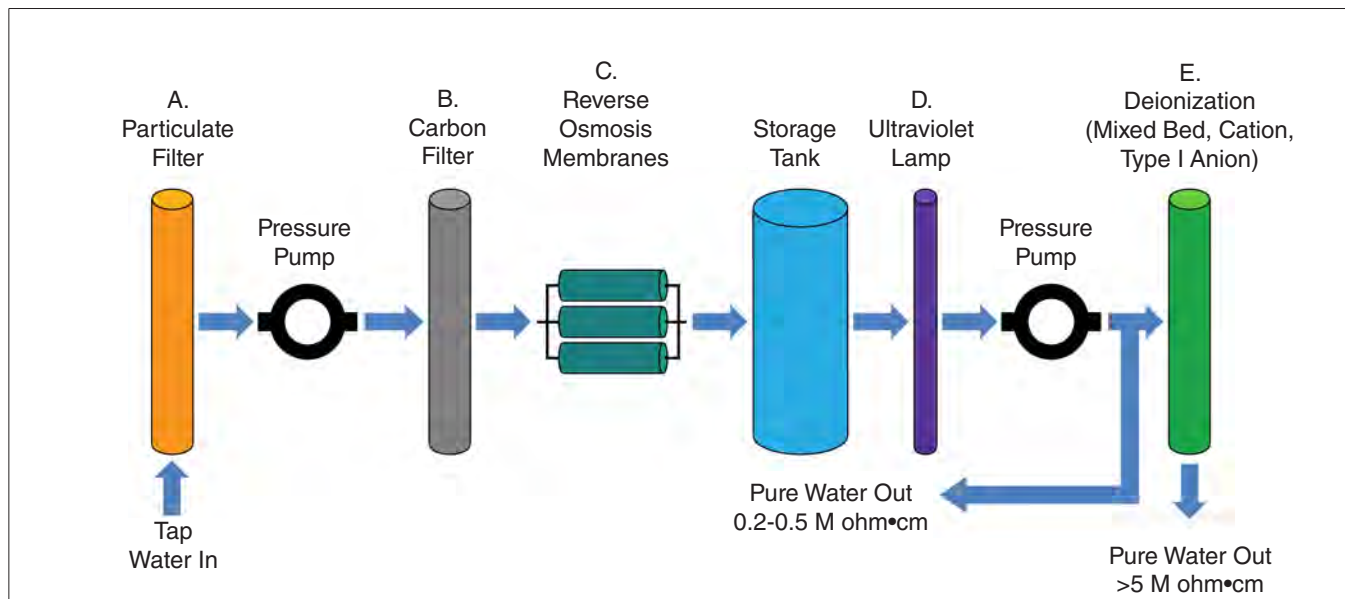

Figure 5.4b: Reverse Osmosis / Deionized Water System.
Type I anion is only necessary in the mixed bed “polishing” stages of the deionization (Figure 5.4b, Stage E), not in the initial “rough” purification stages.
- Figure 5.4b below shows an effective Reverse Osmosis / Deionized Water System with Anion Type I Resin for spray water silica removal.